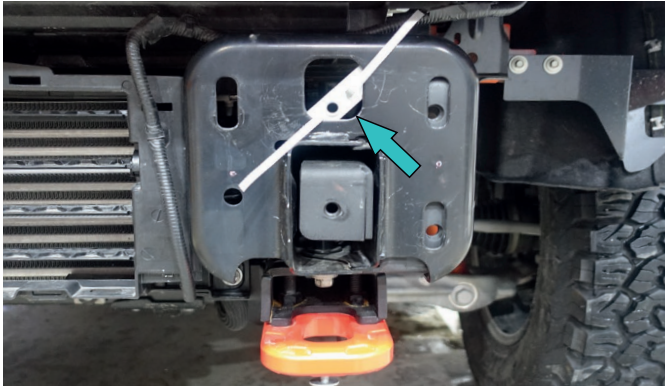

Fig.29
29. Install insert nut M10 with cables (item T) as show in fig.29.